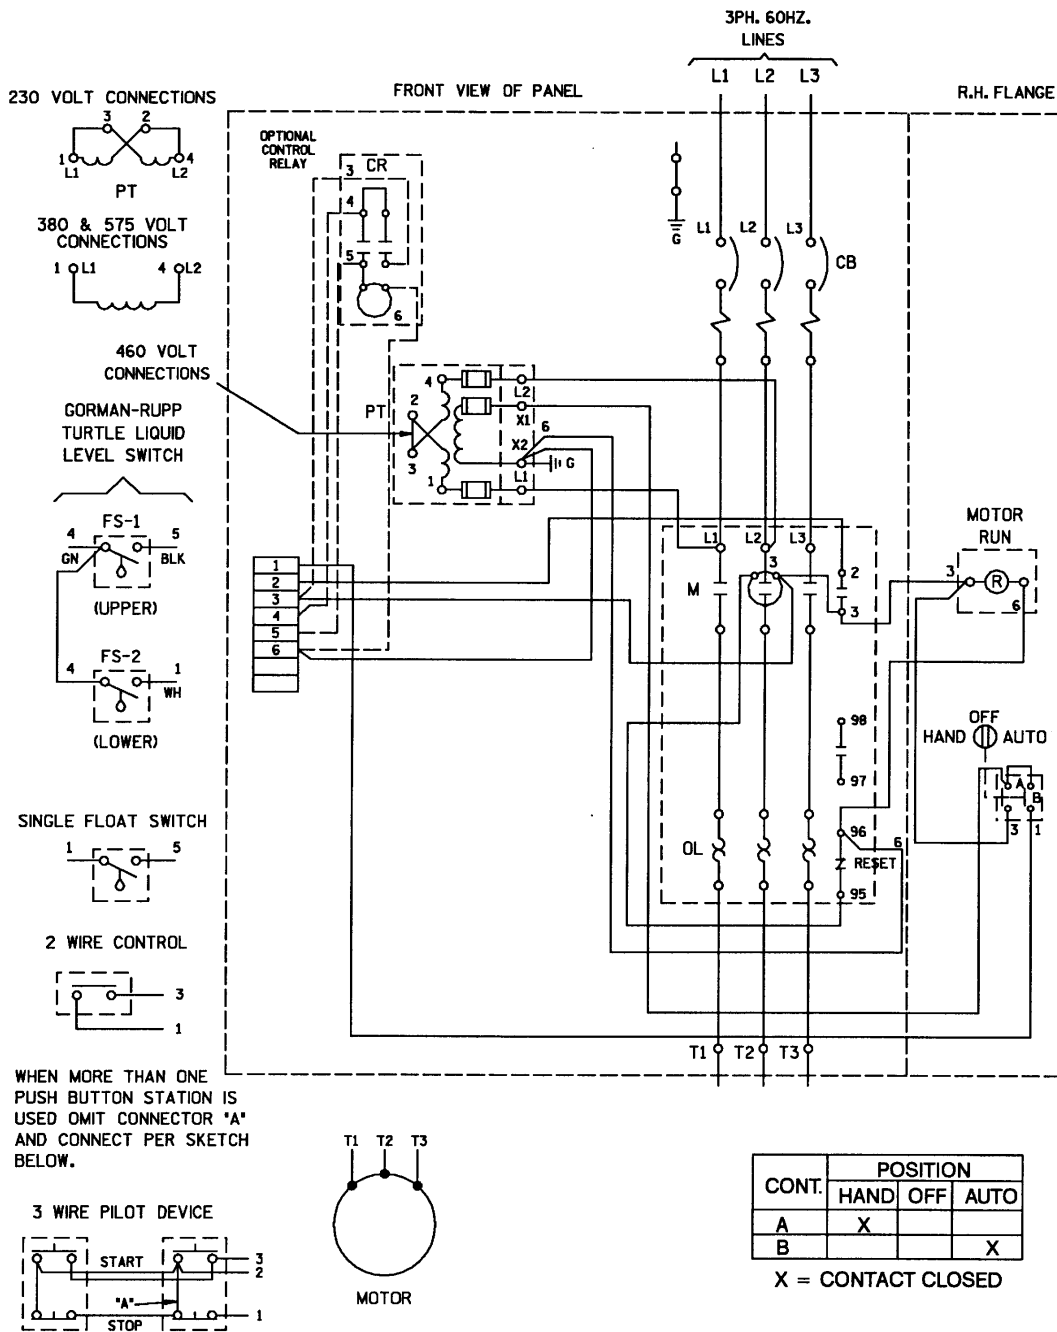
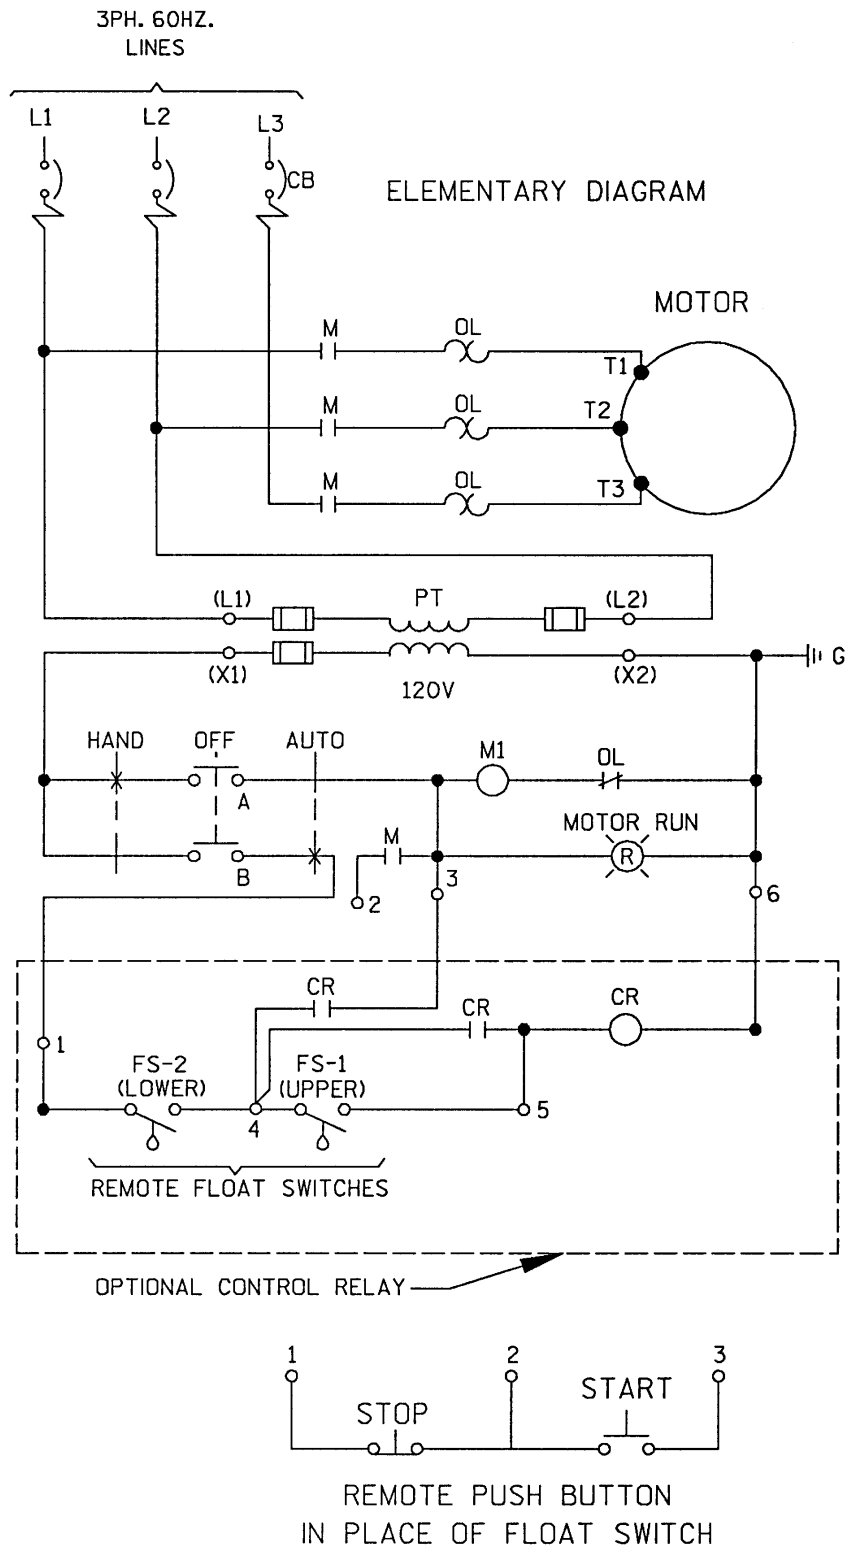

Figure 7. Magnetic Controller Connection Diagram For Control Box 27515-503
Figure 8. Magnetic Controller Elementary Diagram
- a. Measure the incoming voltage across lines (1 & 2, 2 & 3, and 1 & 3.) while the pump is **operating at full capacity**. See Figure 7 on page B-14 or Figure 8 on page B-15..
Connect the pump power cable to the control box as shown in Figure 7 on page B-14 or Figure 8 on page B-15.. Use conduit or cable clamps to secure the power and accessory cables to the control box. Make certain that all connections are tight and that cable entry points are rainproof.
Based On Figure 7 on page B-14